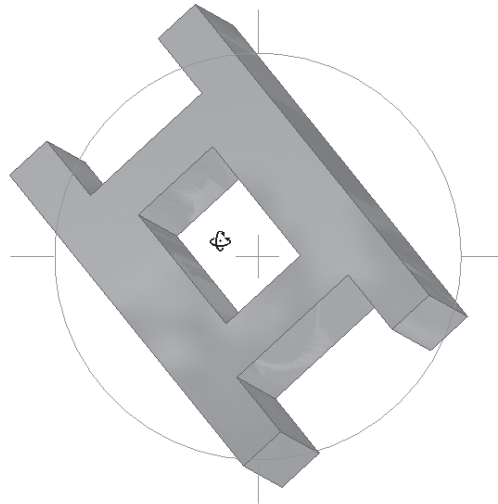

Figure 3-54 Rotating the view of the model freely in 3D space
- Rotate the model in 3D space using the **Rotate** tool, refer to Figure 3-54.
2. Move the cursor inside the rim and then drag it to rotate the view of the model freely in 3D space, see Figure 3-54.